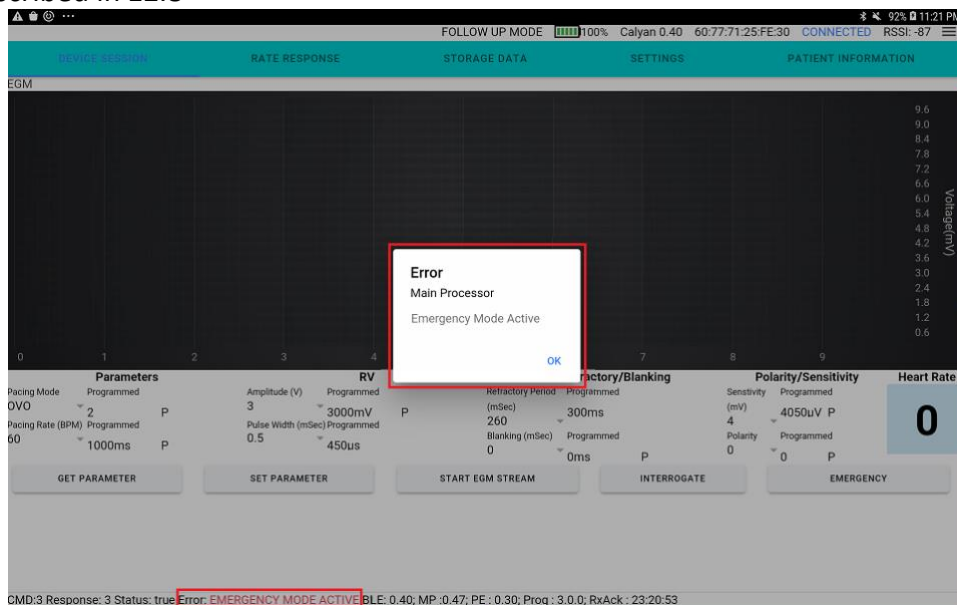

Figure 235: Device Error (Status Bar)
1. Tap on the error codes and a dialog box with all the errors presently returned from the Device will be listed (Figure 235).